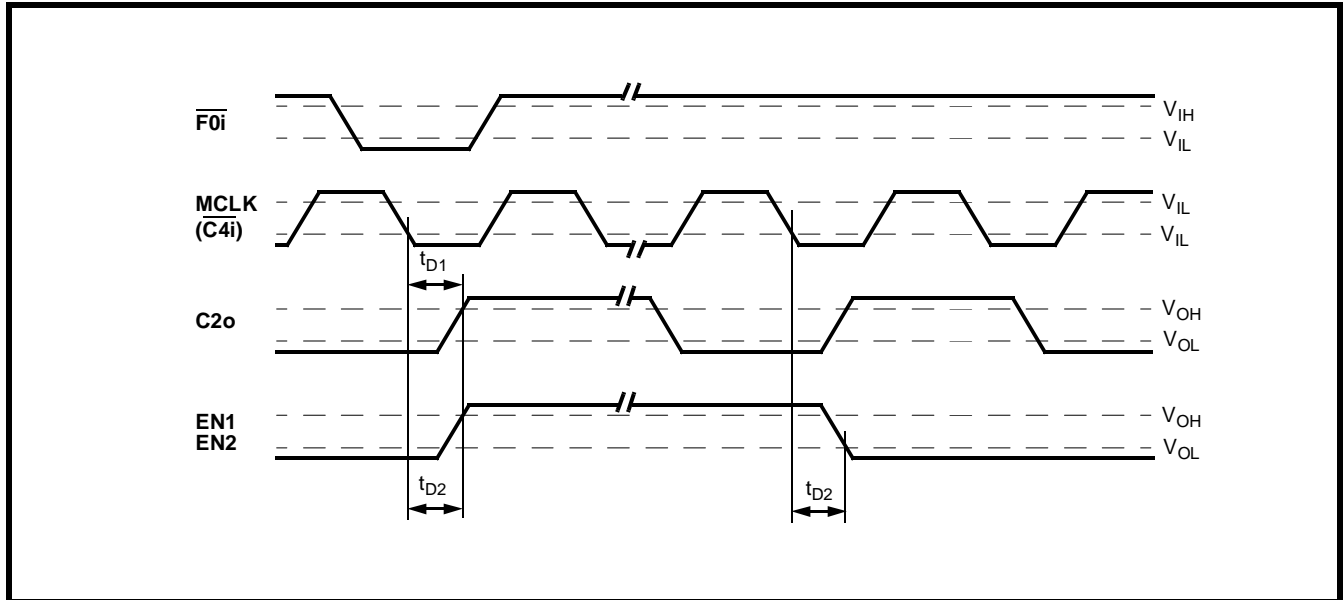

Figure 14 - ST-BUS Timing for External Signal Generation
**AC Electrical Characteristics† - ST-BUS Conversion (see Figure 14)**